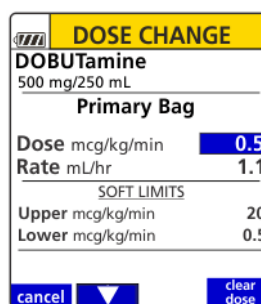

Figure 74. Dose Change Screen.
- The current dose is displayed along with the dose soft limits. Observe the displayed dose soft limits. See Figure 74.